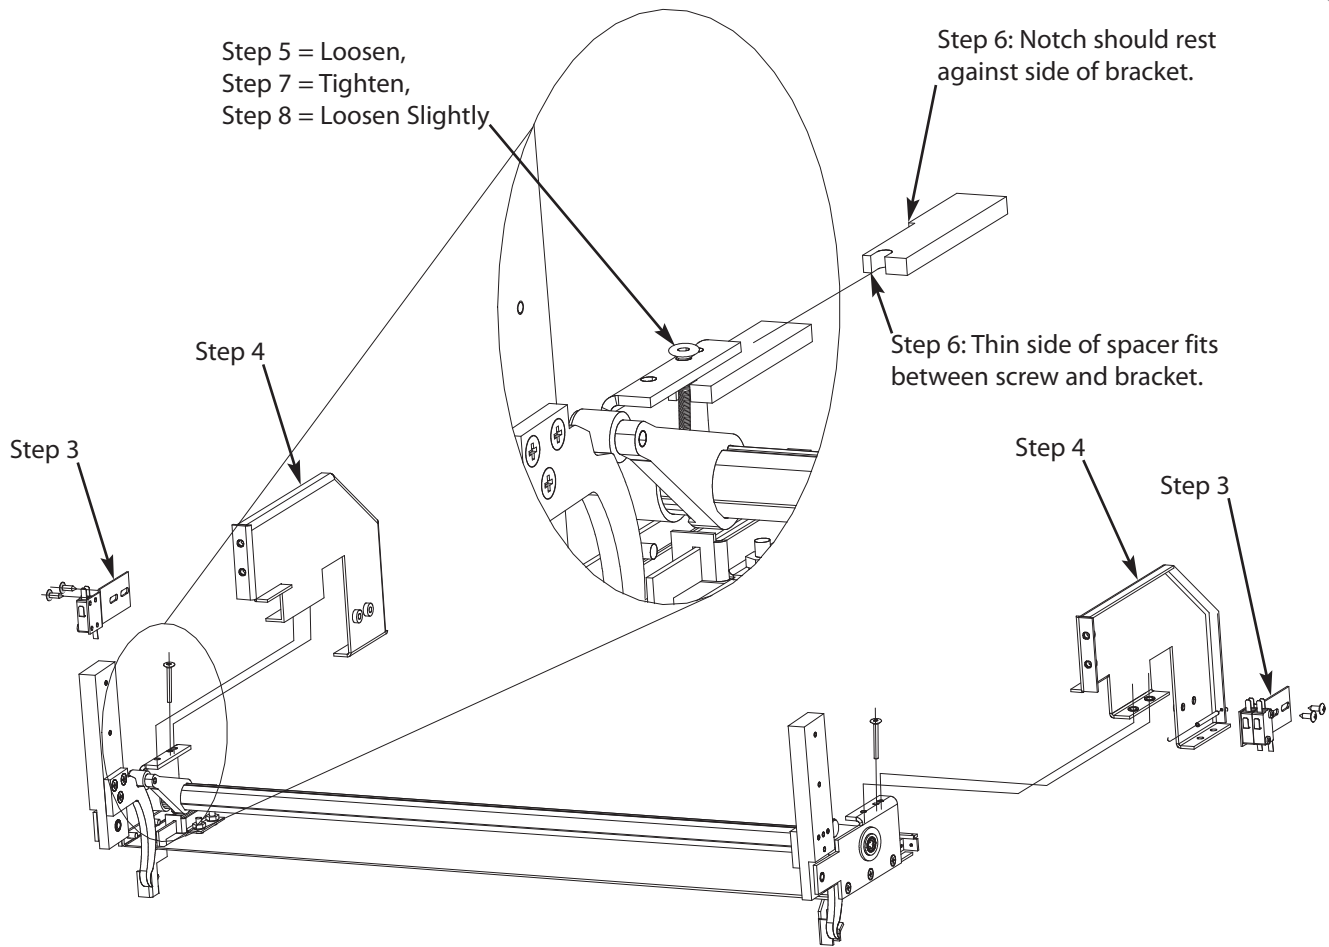

Figure 27: Counter Balance Adjustment
NOTE: In Figure 27, some oven components have been removed for clarity. The adjustment procedure **MUST** be performed with the counter-balance and hinges installed.
3. Remove both switch bracket assemblies (one on each side of the oven). See Figure 27.
4. Remove the door hinge gussets from each side of the oven. See Figure 27.
5. On one side of the oven, loosen the screw as shown in Figure 27.
6. Slide the adjustment spacer (included with counter-balance assembly kit) under the counter-balance bracket. The thin side of the spacer should go between the screw and the bracket, and the notch should rest against the side of the bracket. See Figure 27.